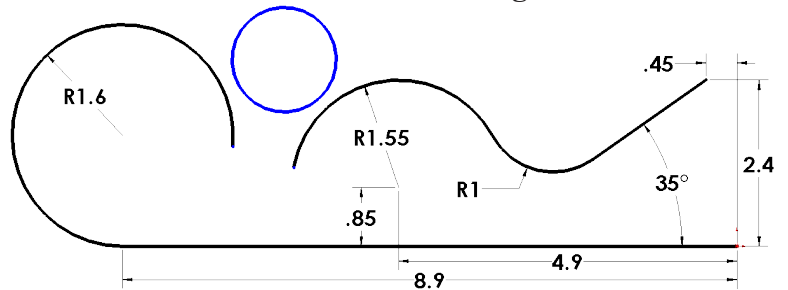

Fig. 11
Step 1. Click **Circle**  (S) on the Sketch toolbar.
Step 2. Draw circle between the two arcs, Fig. 11.